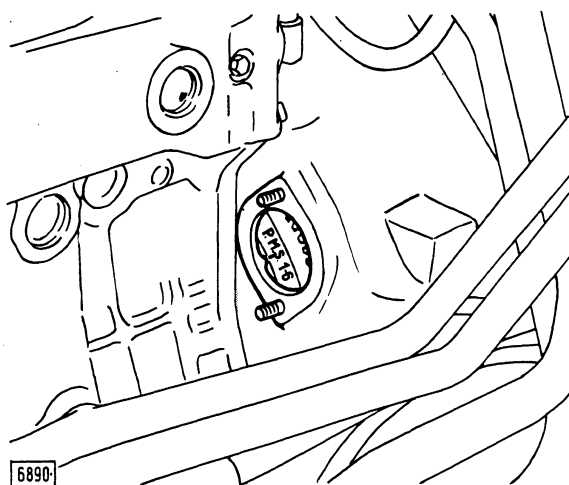

Fig. 16 - T.D.C. timing mark on flywheel.
- Loosen the fuel injectors and rotate the crankshaft until the PMS 1-6 (T.D.C. 1-6) mark stamped on flywheel periphery lines up with the timing pointer (fig. 16).